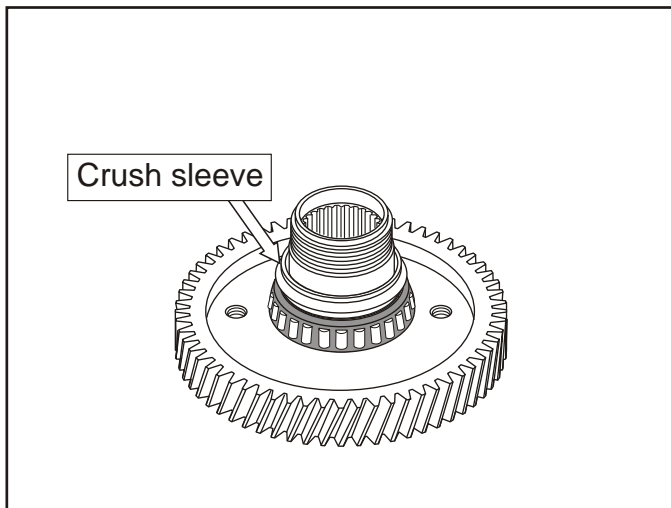

Figure 188
- 132. Remove the crush sleeve shown in Figure 188.